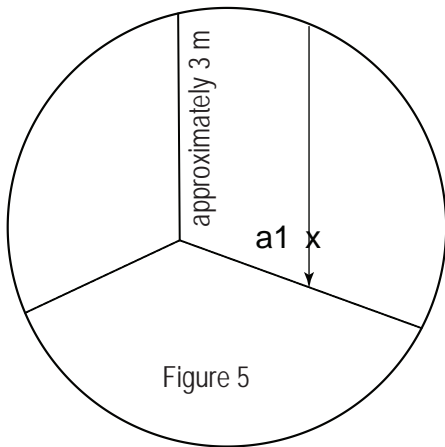

Figure 5
- 2) After the plumb line has settled, mark point **a1** on the wall behind the plumb line, near the plumb cone. (see figure 5).